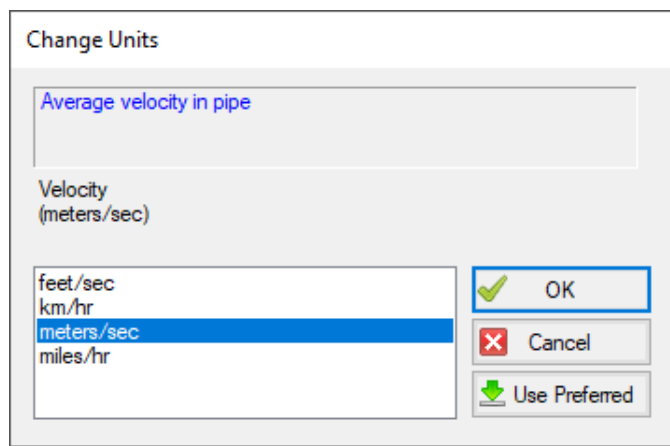

Figure 2.26 Open the Change Units window from the Output window tables by double-clicking the column header
- ▶ **Lastly, double-click the column header for Velocity on the Output window Pipe Results Table.** This opens a window to change the units of the column without opening the Output Control window (see Figure 2.26). These changes are automatically updated in the Output Control window. Keep the selected units as is, and click OK to close the window.